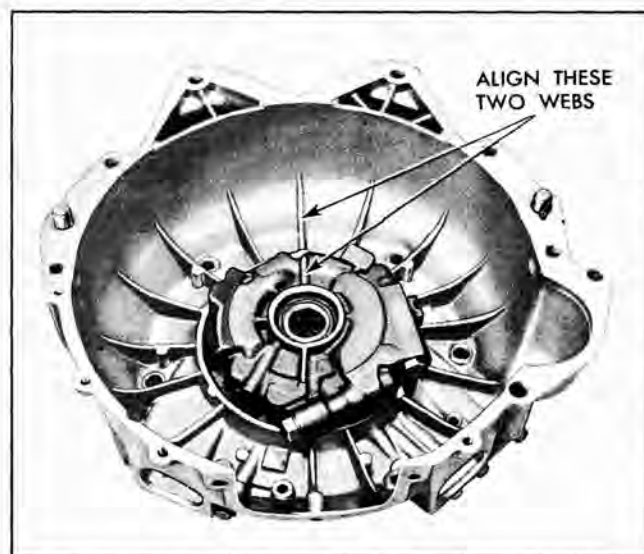

Fig. 77 Aligning Pump in Case Cover
2. Align the top structural web of the pump exactly with the top web in the case cover (Fig. 77). Start one pump attaching bolt from under side of cover to assure proper alignment before pushing pump to bottom of its recess in the the cover.